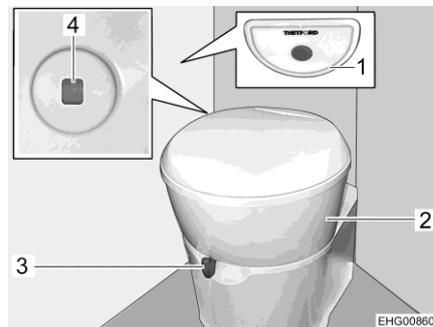

Fig. 64 Toilet
The toilet bowl can be rotated into the required position. In order to do this, grab the toilet's upper part (Fig. 64,2) with both hands and rotate it.
The operating unit with the flush button (Fig. 64,1) is installed near to the toilet bowl.
The colour of the level indicator (Fig. 64,4) changes from green to red whenever the sewage tank has to be emptied.
- Before flushing open the sliding trap of the toilet. To do this, push the slide lever (Fig. 64,3) in an anticlockwise direction.
- For flushing, press the blue flush button (Fig. 64,1).